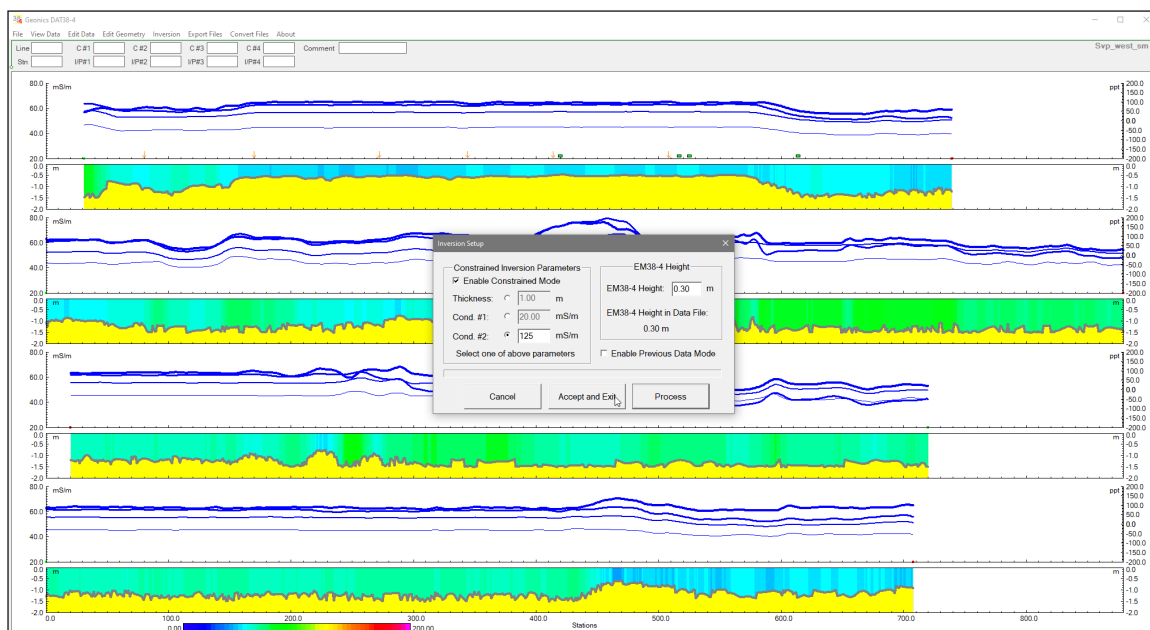

Figure 6.7 The DAT38-4 Inversion Setup dialog with enable Previous Data Mode.
- Examples demonstrating the effect of enabling Previous Data Mode are shown in Figures 6.7 and 6.8.